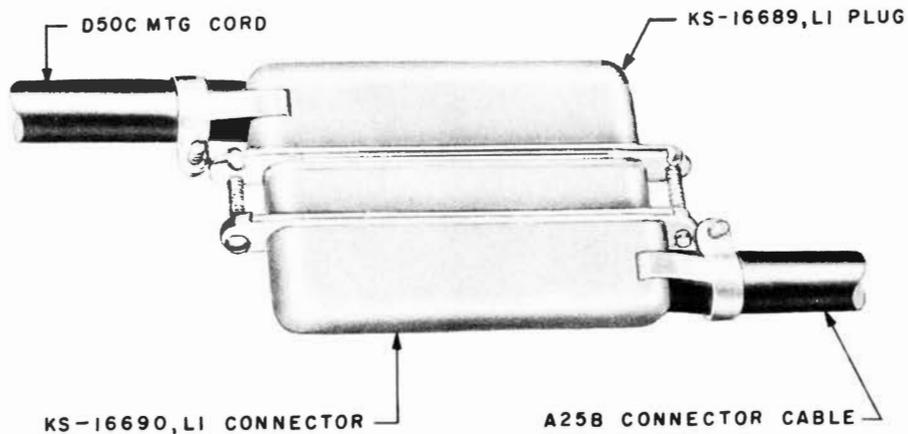

Fig. 7 - D50C Mounting Cord Joined With A25B Connector Cable
3.11 Fig. 7 illustrates how the plug joins with an A25B connector cable.